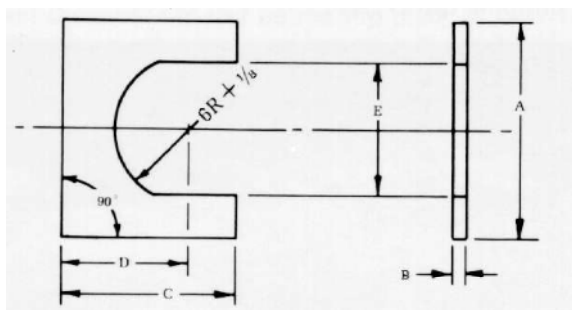

Figure 5 Motor U-plate
- f\$ One correctly sized motor U-plate (see Figure 5, Page 21 and Table 4, Page 21)